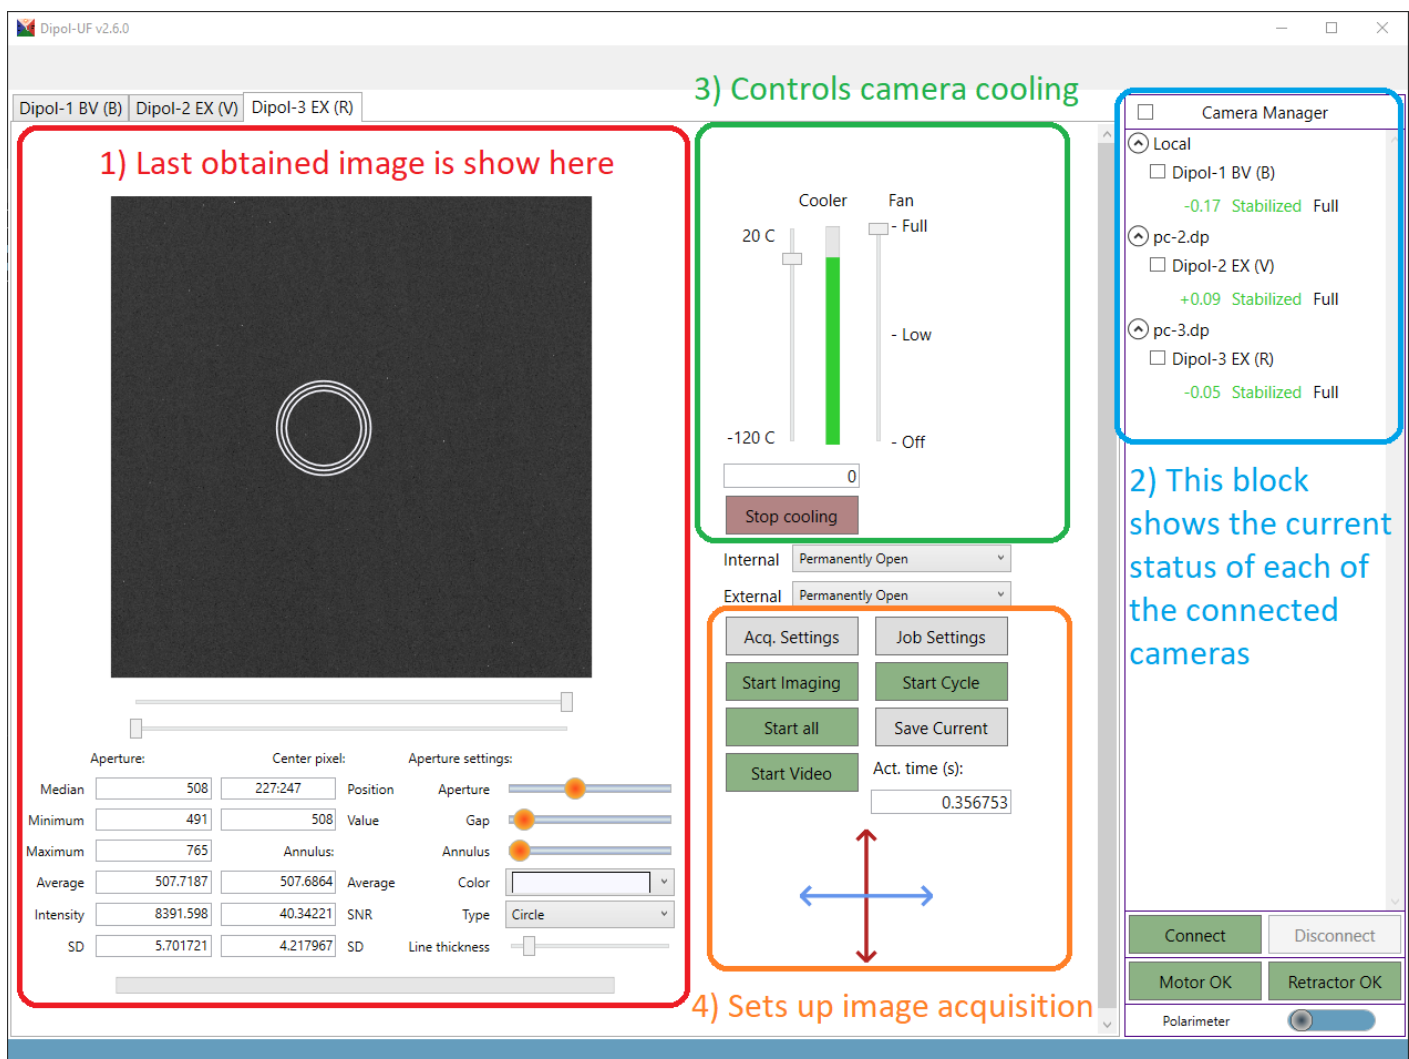
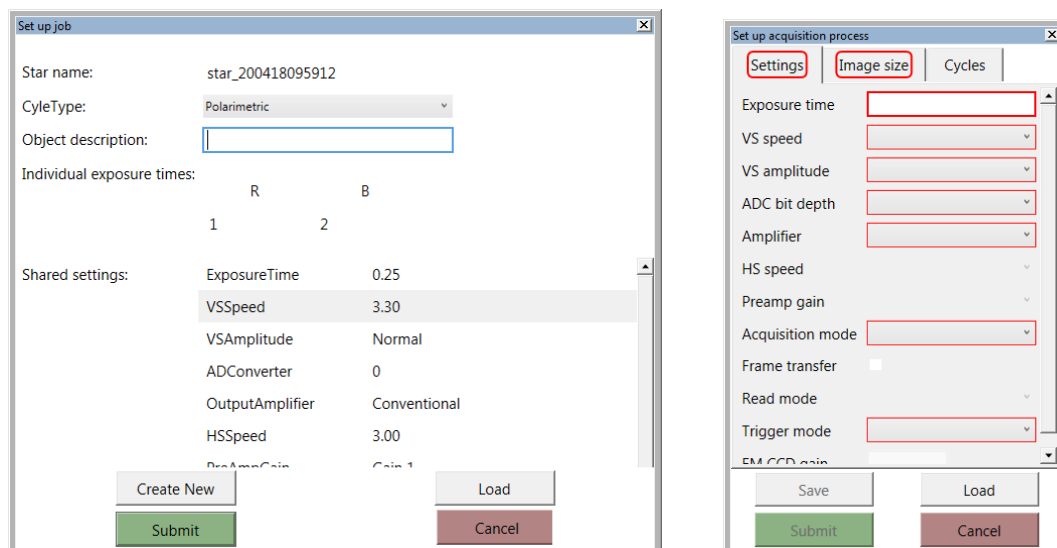

Figure 3. Preparing Dipol-UF for observations.
Figure 4. Left: job configuration window. Right: camera configuration window.
Select all cameras and click '**Connect**', or simply click '**Connect All**'. You will be returned to the main window. Rightmost panel will be updated with the status of each camera, such as its current temperature, cooling regime, and fan speed (Zone 2 in Fig. 3). The central panel contains information about each individual camera. Each camera has its own tab, which can be switched at any time (above Zone 1 in Fig. 3).
The next step is cooling down cameras. **Important: this should be done for each camera individually!** Using controls shown in Zone 3 of Fig. 3, set up target temperature (use either the input field or the slider). **Important: Never set the cooling temperature lower than -50°C.** EM CCDs can be cooled down to -120°C using liquid cooling system, which is not installed on DiPol-UF. Recommended temperatures are between -30°C and -50°C. Lower temperatures are better for faint targets observed in the electron-multiplication regime. Click on '**Start cooling**' to begin the cooling process. Use the right slider to switch on fan. It is recommended to use 'Full' speed. Proceed to the next phase when each camera has stabilized its temperature (Green '**Stabilized**' in Zone 2 of Fig. 3)
Dipol-UF operates using so-called 'jobs' - JSON-based (human- and machine-readable) configuration files that contain all necessary presets for a given targets. These files can be stored on disk between different observing runs, so the more you observe, the richer the library of jobs and the easier it is for the next observer to select an appropriate configuration. Zone 4 of Fig. 3 shows 'Acq. Settings' and 'Job Settings' buttons. 'Acq. Settings' allows you to fine-tune settings of the currently selected camera. This is rarely needed but can be used to e.g. assign different exposure times to different cameras (for e.g. bright red/blue targets, see Fig. 4, right).
Once the job is submitted, the acquisition time of each camera can be seen in Zone 4 of Fig. 3. The polarimetric regime, selected for the current target, is also displayed there. A blue-red cross denotes linear polarization, while a green circle marks circular polarization.
Once 'Video mode' is enabled, the image view (Fig. 3 Zone 1) will be constantly updated with the newly acquired frames, allowing you to adjust both focusing and telescope pointing. **Note:** for observations of bright targets, image defocusing is strongly recommended. This helps to avoid saturation, collect large number of ADUs and spend observing time efficiently. With defocusing, stars with  $m_V$  up to  $\approx 3.5$  mag can be measured with the NOT. The calcite provides enough separation of the e and o-images for significant defocusing, but make sure that they are not touching each other and not overlaid. Use 'Video Mode' to test telescope guiding stability. When you have positioned both rays of you target in the center of each camera's field, stop monitoring by clicking on 'Stop Video'.
**Important:** If you interrupt the cycle, **you must clean up last images you obtained on ALL computers before continuing.** There are three shortcuts on the desktop of the main PC, leading to the data folders for each camera. The software creates sub-folder where images are saved on each PC automatically, according to the date of the observations (in 'yyyymmdd' format). The scientific and calibration images acquired for each target are saved in the same folder and are post-fixed appropriately (e.g. '\*\_bias' for bias). All file names start with the name of the star specified in the Job file. The last image written by each camera is displayed in the main window above the last acquired image (at the top of Zone 1 of Fig. 3). Polarimetric images are processed in series of four, so **the index of the last image should be divisible by 4.** For example, if you have taken 131 exposures, then you need to delete 129, 130, and 131, as they are part of an incomplete polarimetric measurement cycle and they will complicate the procedure of follow up data reduction, if left in the folders. **Do not continue observations before cleaning up the redundant/corrupted images.**
Once your program is finished, prepare DiPol-UF for shutting down. Make sure all observations have been finished and no cycles/video mode monitoring are running (if necessary, abort acquisition). Stop cooling of each camera (see Zone 3 of Fig. 3). Monitor temperatures (Zone 2 of Fig. 3), wait until cameras heat up to +5°C or so. After that – just hit the red cross at the top of the GUI window to close the program. **Make sure your Observational Log is filled in and saved.**